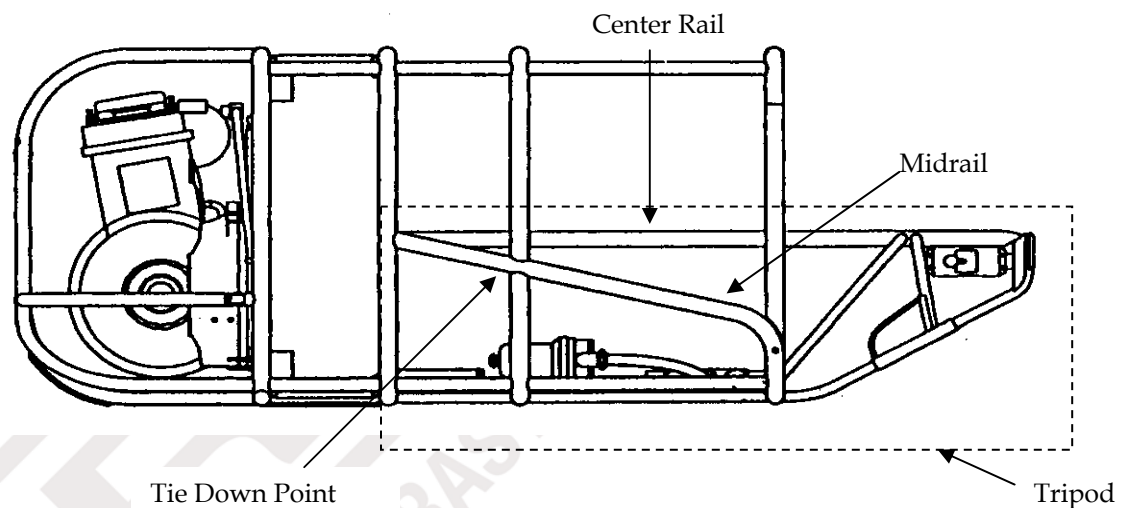

Figure 1
2. If the spider staging must be transported in the prone position, it must be done, control panel down, with the tie-downs going over the middle brace on one side, under the center rail of the tripod and then over the middle rail on the other side. See figure 1.